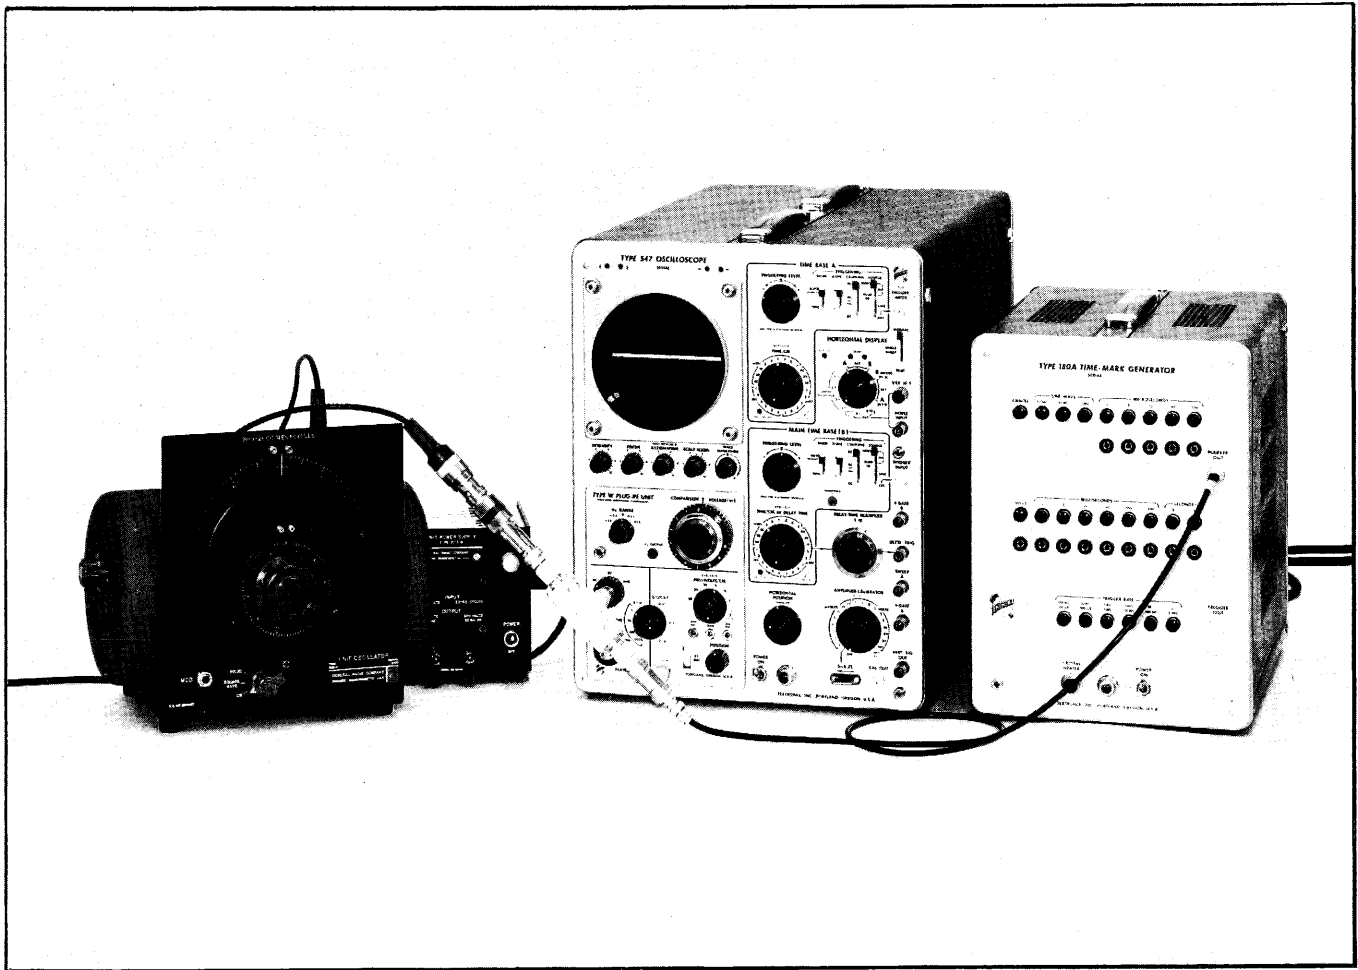

Fig. 5-38. Step 24 a. Test setup for calibrating 1000 mc oscillator.
a. Set up the equipment of Fig. 5-38 to adjust the 1000 mc oscillator to $\pm 0.25\%$ by comparison with Type 180A 50 MC.